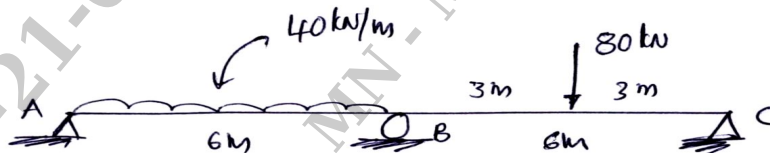

Fig.Q.9
- 9 Analyze the continuous beam by stiffness matrix method (system approach) shown in Fig.Q.9. Draw BMD EI is constant. (20 Marks)